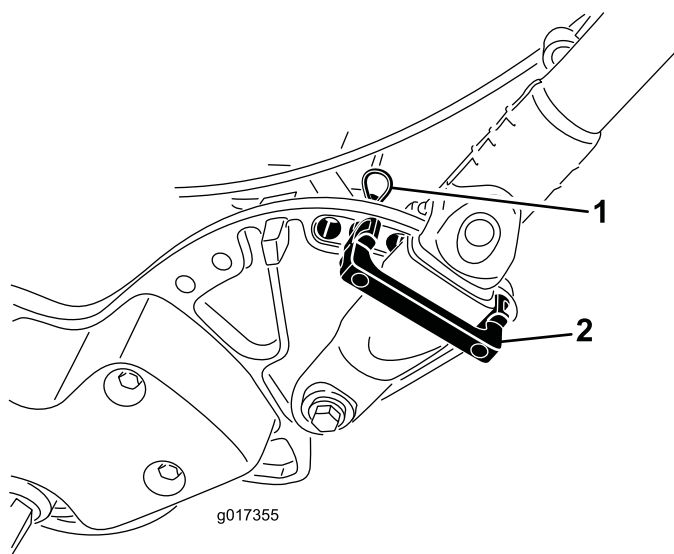

Figure 9
1. While supporting the handle, remove the cable ties securing the handle clamps to the side plates (Figure 9).
2. Pivot the handle to the desired operating position, insert a handle retainer over the handle clamp and into the matching holes in the side plate (Figure 9).
3. Secure the clamp in position with a hair pin cotter (Figure 9).